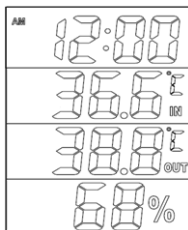

Fig. 1
3. Press the **MODE** button to advance to *hours* and use the **ADJ** button to increase value (see Fig. 1).